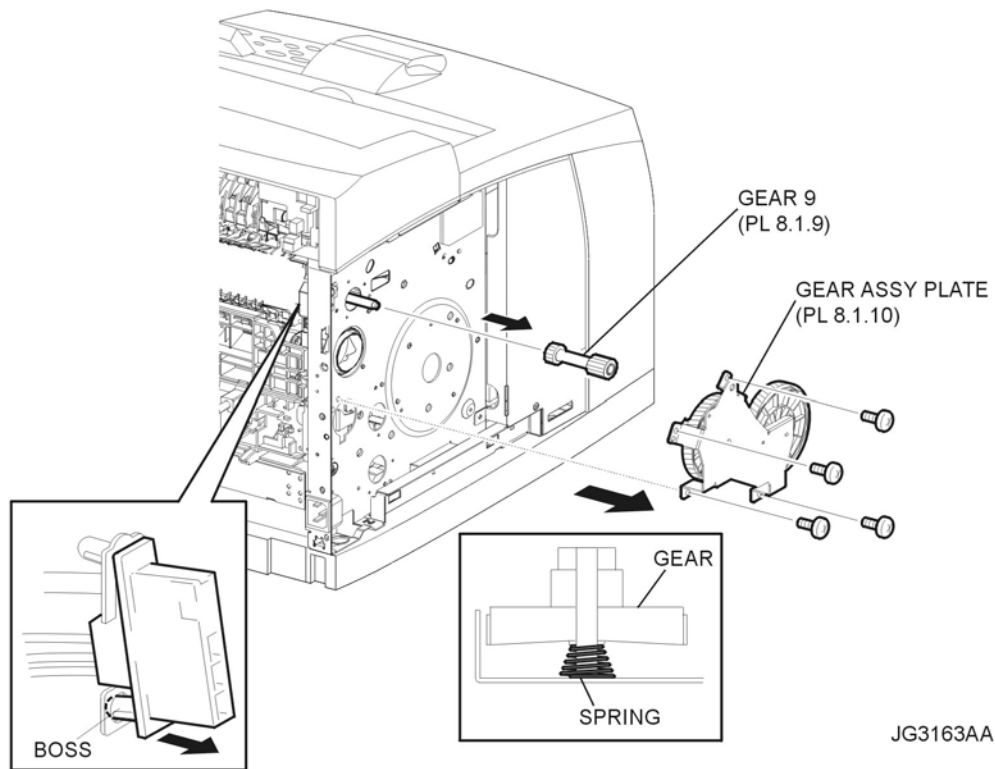

Figure 1. Gear 9 & Gear Plate Assembly
- 7) Remove the GEAR ASSEMBLY PLATE (Figure 1).
- 8) Remove the boss of the bottom side of the connector of the HARNESS ASSEMBLY FUSER from the frame (Figure 1).
- 9) Remove the GEAR 9 (PL 8.1.9) from the shaft on the frame (Figure 1).
- 1) Install the GEAR 9 (PL 8.1.9) to the shaft on the frame (Figure 1).
2) Install the boss which is under the connector of HARNESS ASSEMBLY FUSER to the frame (Figure 1).
3) Install the GEAR ASSEMBLY PLATE to the frame using the 4 screws (silver, 6mm) (Figure 1).